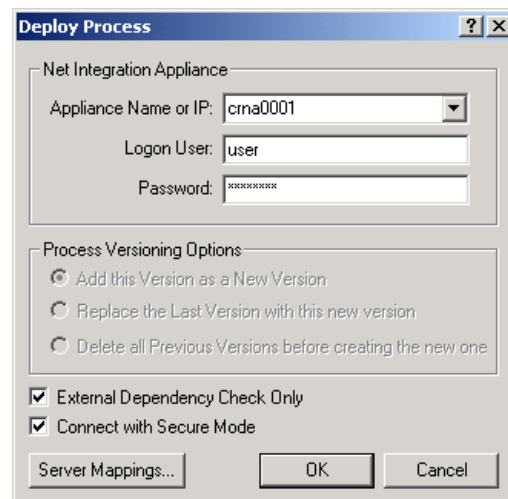

Figure 39-5. The Deploy Dialog with **External Dependency Check Only** check box selected.
- ❶ Choose the correct device you want to use from the drop-down list
- ❷ Enter your username and password.
- ❸ Click the **External Dependency Check Only** checkbox (see Figure 39-5, below).